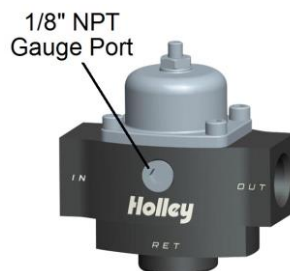

Figure 1
2. The above return style regulators have one discharge (out) port, one inlet port, one return port and one gauge port. See **Figure 1**. (See chart above for fitting sizes).
3. Connect the fuel line from the "out" side of the pump to the "in" side of the regulator. (Figure 1) All fuel line connections must be leakproof.